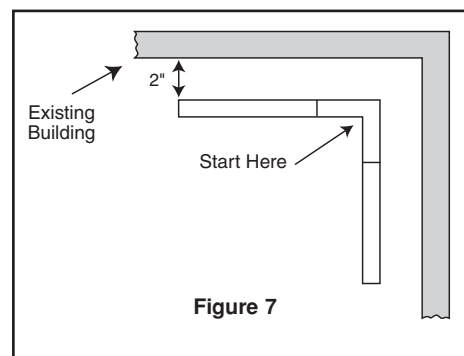

Figure 7
1. Start installation at the corner panel nearest the door or, if cooler is to be installed in a corner, start with the corner located on the inside. (See Figure 7) Place the first corner panel into position. Be sure the 'arrow' is pointed up and the male tongue of the panel (edge w/cam locks) is on the right side when standing inside the walk-in.